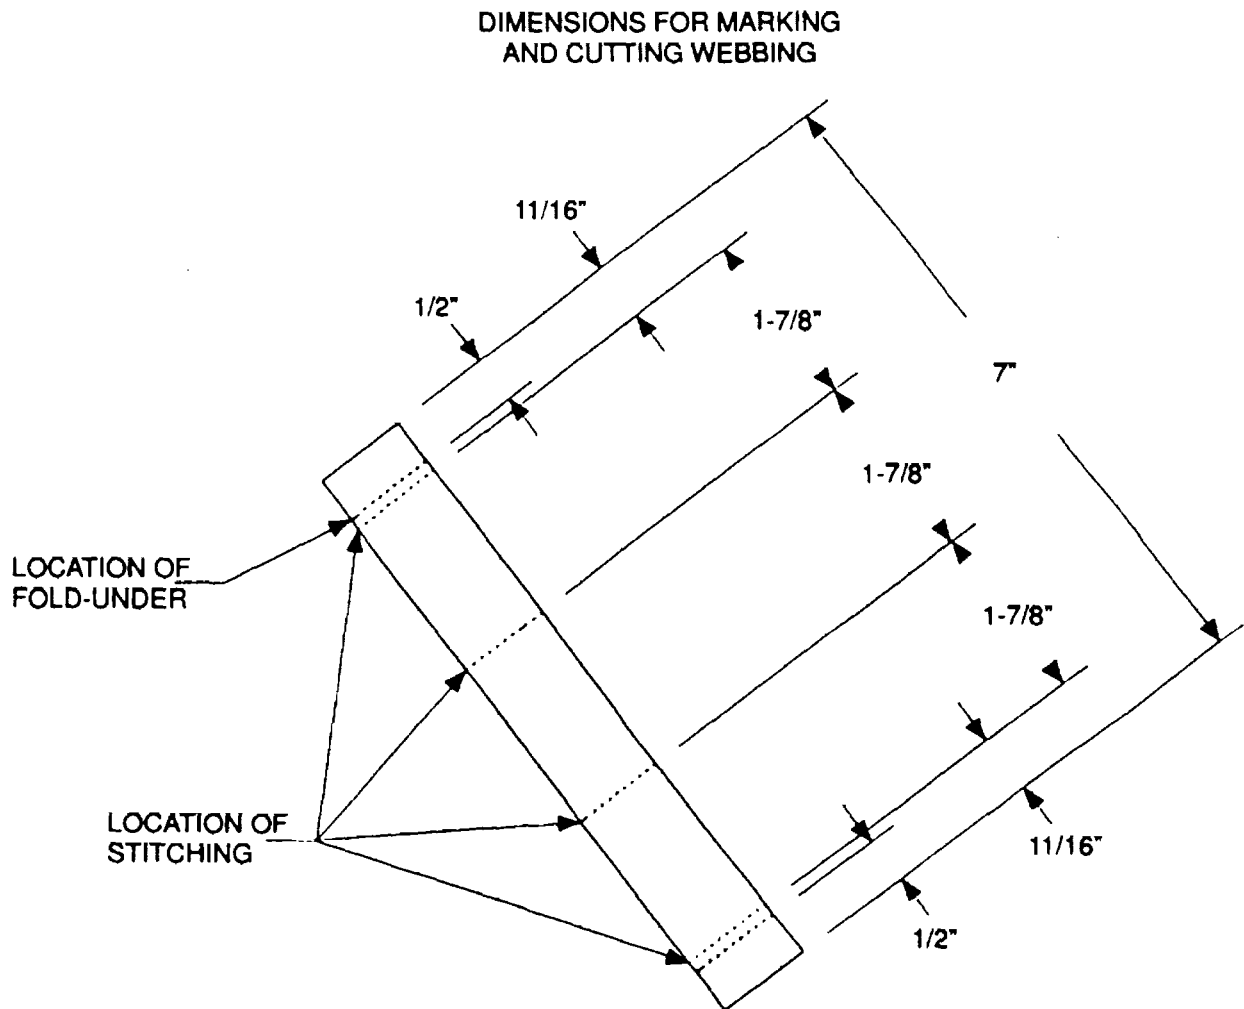

Figure 5.
d. Cut two (2) 7" pieces of Web, Nylon, Type IV, 1" wide and sear ends.
e. Mark the webbing 1/2" and 11/16" in from each end, then 1-7/8" in from the 11/16" marks. The 1/2" marks are for fold-unders and the 1-7/8" marks are for locating the middle two rows of stitching (figure 5)